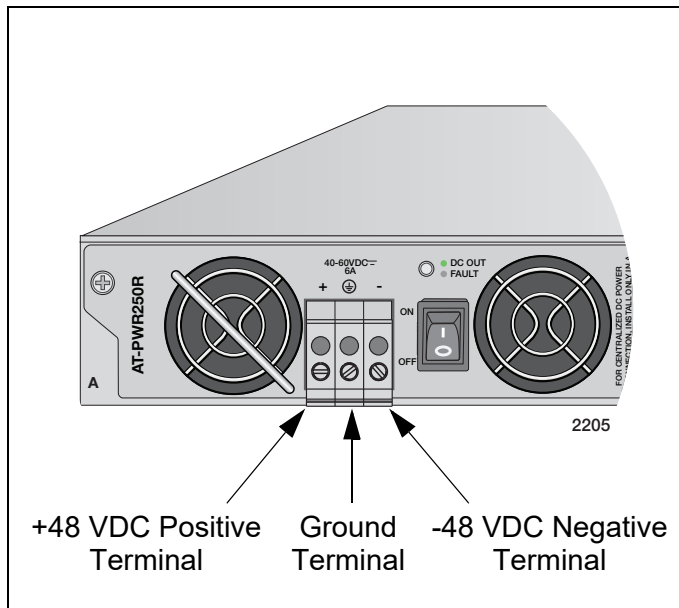

Figure 32. DC Terminal Block on the DC AT-PWR250R-80 Power Supply Module
3. Use the legend above the terminal block to identify the terminals. The terminals are **positive**, **power supply ground** and **negative**, from left to right, as shown in Figure 32 on page 72.